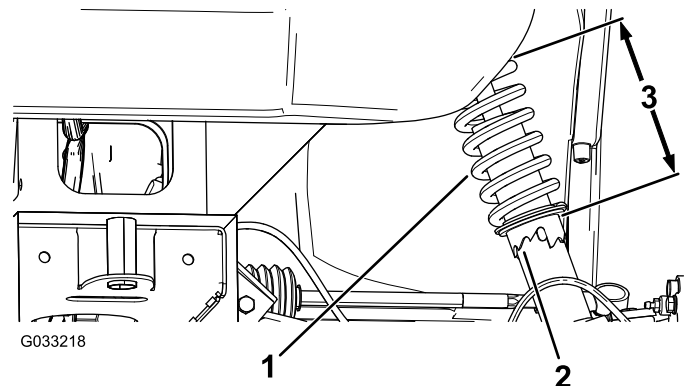

Figure 50
- If the wheel camber is out of alignment, use the spanner wrench to rotate the collar on the shock absorber to align the wheel (Figure 50).